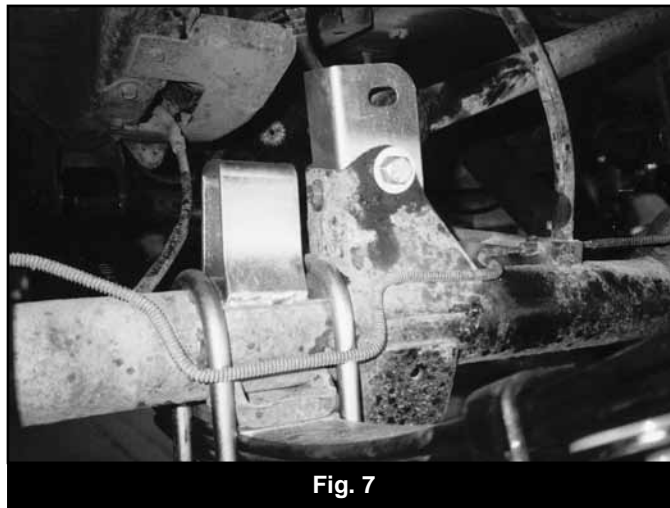

Fig. 7
29. Place 1/2" ID x 1 5/8" sleeve in track bar extension bracket at the 1/2" ID hole to retain spacing. Retain loosely with 12mm x 70mm bolt. Install 5/16" x 1" bolt, with washers and lock nut in the lower outside hole. Torque the 5/16" then the 12mm bolt. Mount track bar using the OE fastener. It may be necessary to loosen the mount at the frame. Do not torque fasteners at this time. (Fig. 7)